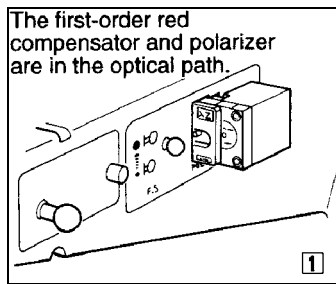

Figure 1-27
- To enable sensitive polarization or differential interferometer microscopy, push the first-order red compensator in to the limit to bring it into the optical path. (Figure 1-27 below)